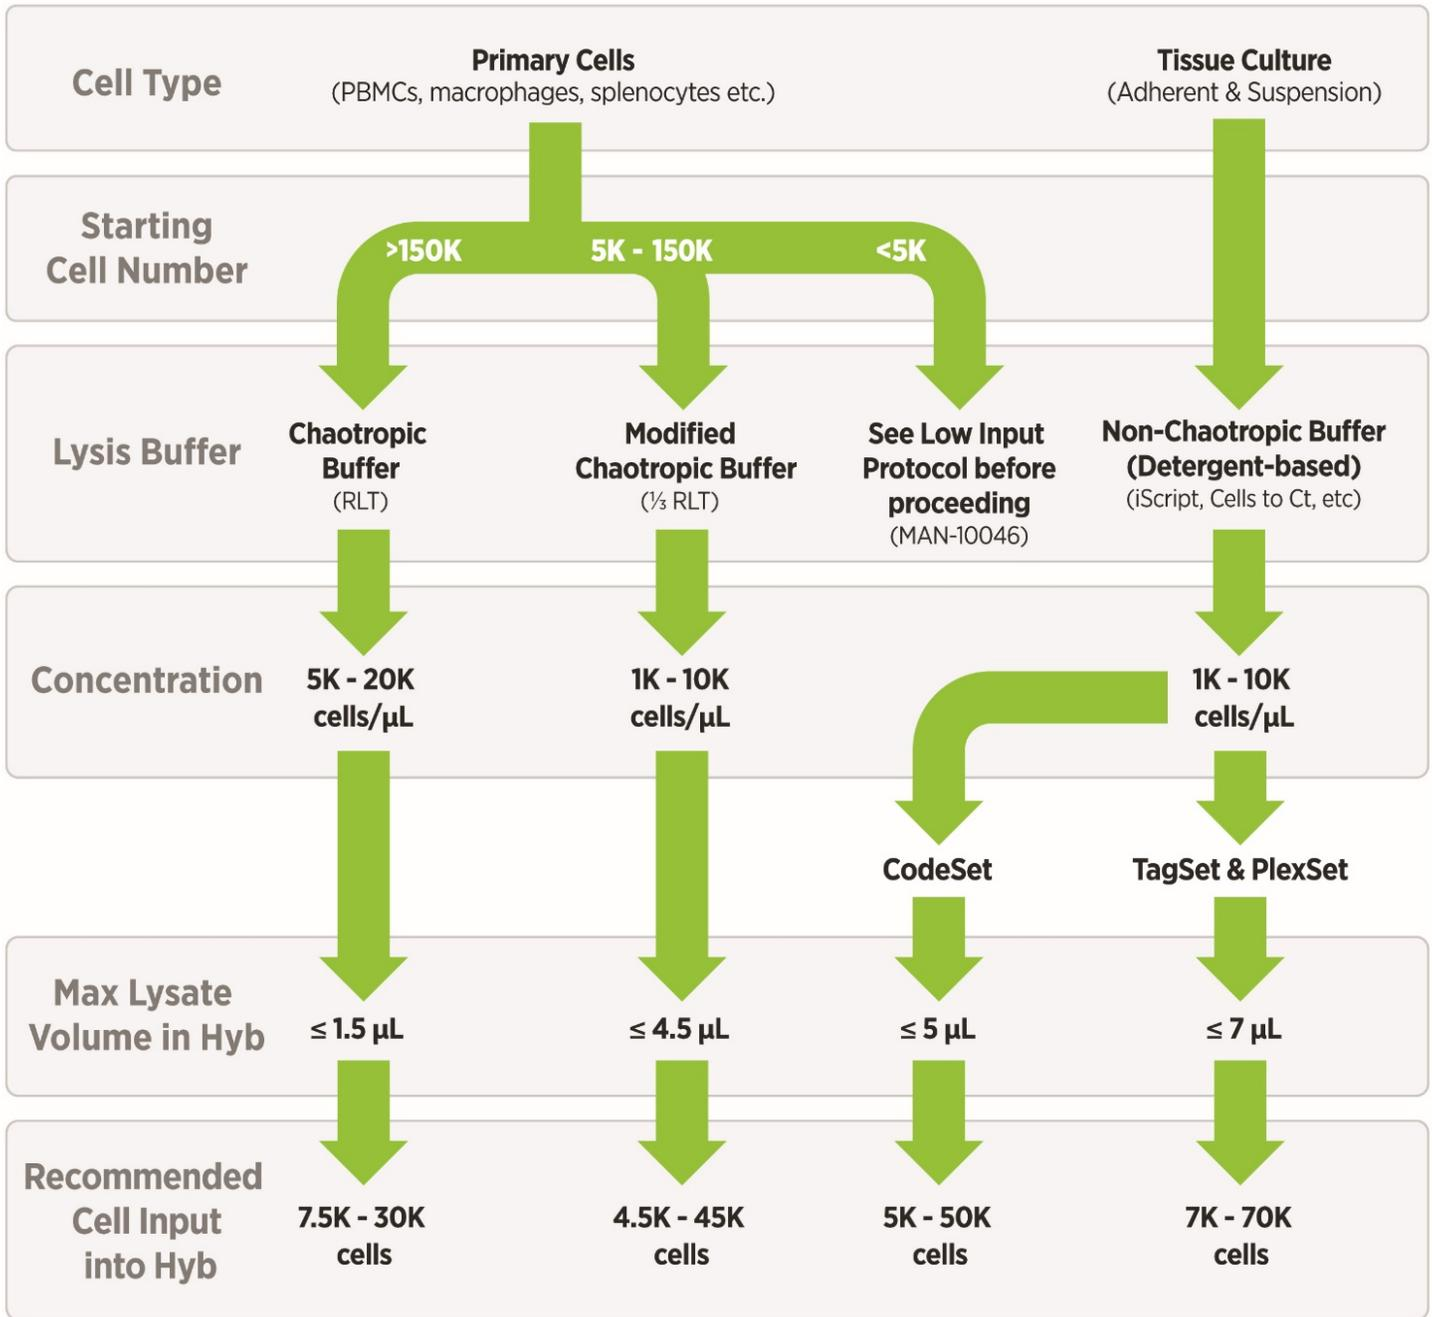

Figure 1. Lysate workflow
For the majority of cell types, NanoString recommends a minimum of 5,000 to 20,000 cells (or cell equivalents) per hybridization reaction for measuring gene expression. Some cell types, such as freshly isolated immune cells, may require 20,000 to 30,000 cells per hybridization reaction for adequate input. The required number of cells for any given application will ultimately be dependent on the abundance of the mRNA targets of interest in the sample to be assayed and should be determined empirically by the end user for their biological system. Furthermore, the maximum sample input volume when using cell lysates depends on the type of lysis buffer used. Cell type and number play an important role when choosing which buffer to use. Use the flow chart below (Figure 1) to determine the appropriate lysis buffer and lysis protocol for your sample preparation.
The list of suggested lysis buffers found in Figure 1 and their associated catalog numbers are listed here in Table 4.
NanoString recommends lysing cells using a chemical- or detergent-based buffer (such as iScript or Cells-to-Ct) for applications involving tissue culture cells (adherent and suspension). These buffers are non-chaotropic, as they do not contain chaotropic salts, making them fully compatible with nCounter hybridization reagents. These buffers should be used such that final cell lysate concentrations are between **1,000–10,000 cells/μL**. Lysate concentrations greater than **10,000 cells/μL** may result in incomplete cell lysis. Up to **5 μL** of lysate may be added to Codeset hybridization reactions (up to **7 μL** of lysate may be added for TagSet & PlexSet reactions) (Figure 1).
8. Use up to the 'Max Hyb Volume' of lysate recommended for your assay in each NanoString hybridization reaction (see Figure 1).
Prior to the start of the lysis experiment, dilute 100% RLT Buffer to 1/3 Diluted RLT in nuclease-free water. To allow efficient lysis, lysate concentration should not exceed **10,000 cells/µL**. It is important to start with an optimal number of cells so that the final concentration of cells will allow appropriate amount of input to be loaded on to each reaction at maximum volume of **4.5 µL** of cell lysates (see Figure 1).